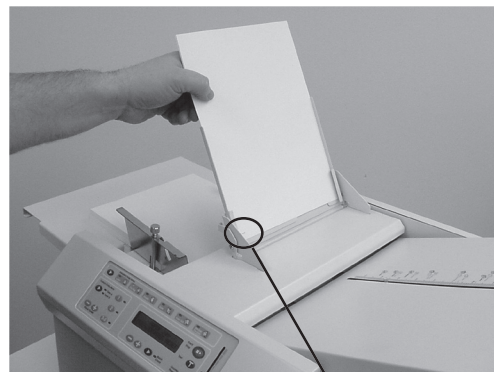

Fig. 11
2. Slide the pre-collated paper set into the multi-sheet feeder. When feeding stapled sets the documents should be placed with the staple on the operator's side and leading (Fig 11).